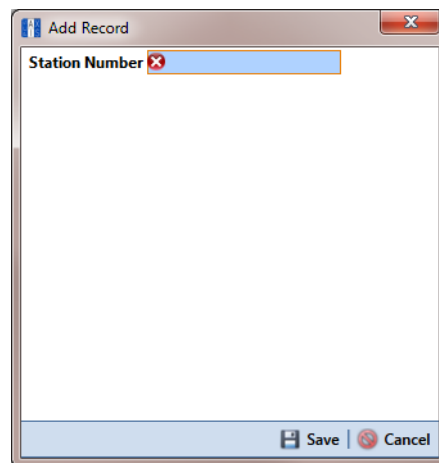

Figure 7-59. Add Record
- a Click **+** Add to open the *Add Record* dialog box (Figure 7-59).